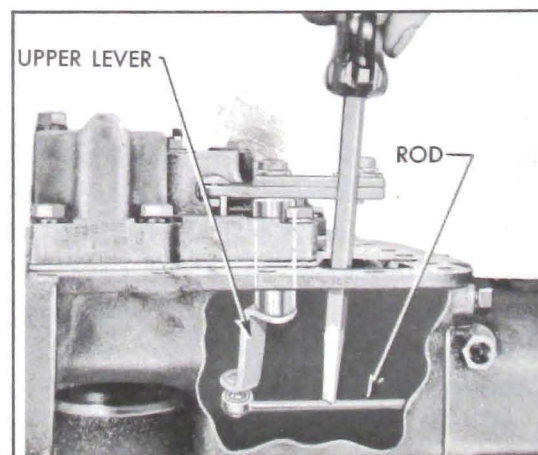

Figure 5-30—Disconnecting Valve Operating Rod from Upper Lever
on rod close to lever and exerting slight pressure. A spring loaded socket on rod engages a ball stud on lever. See figure 5-30.
1. Disconnect valve operating rod from upper operating lever if not previously done. See figure 5-30.